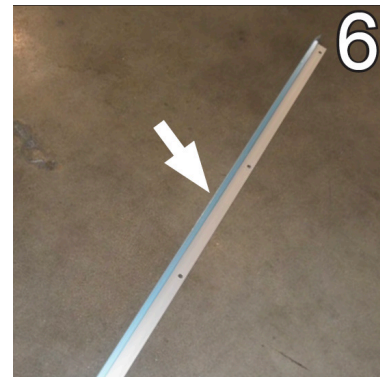

Fig. 74 Secure frame to partition
6. For case-to-case trim-out (no foam partition), carefully push the provided T-bar (Fig. 74) between the frames. Secure with the provided T-bolts.